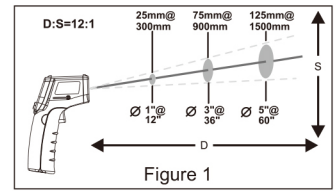

Figure 1
- 1) When taking measurement, pay attention to the Distance to Spot Size. As the Distance (D) from the target surface increases, the spot size (S) of the area measured by the unit becomes larger. The Distance to Spot size of the unit is 12:1. (Figure 1)